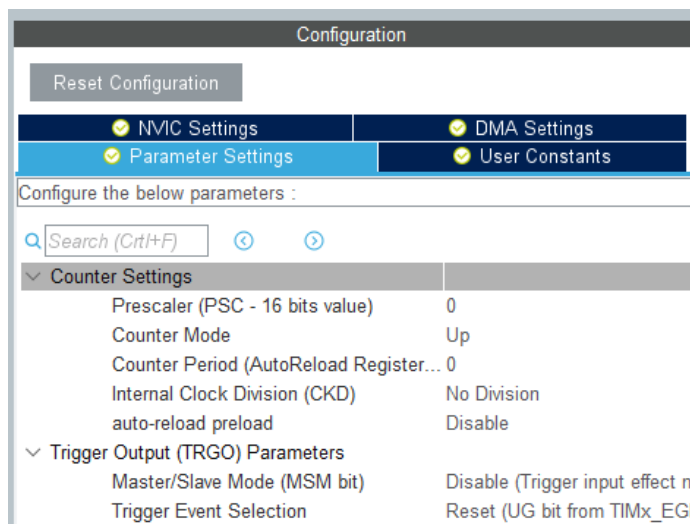

Figure 8: Parameter Settings in the TIM3 Configuration window (polling).
- When polling is done on TIMx_CCR1, enter the proper *Prescaler* and *Pulse* fields. Insert the remaining parameters according to Figure 8. The *Pulse* value will be in CCRx register.